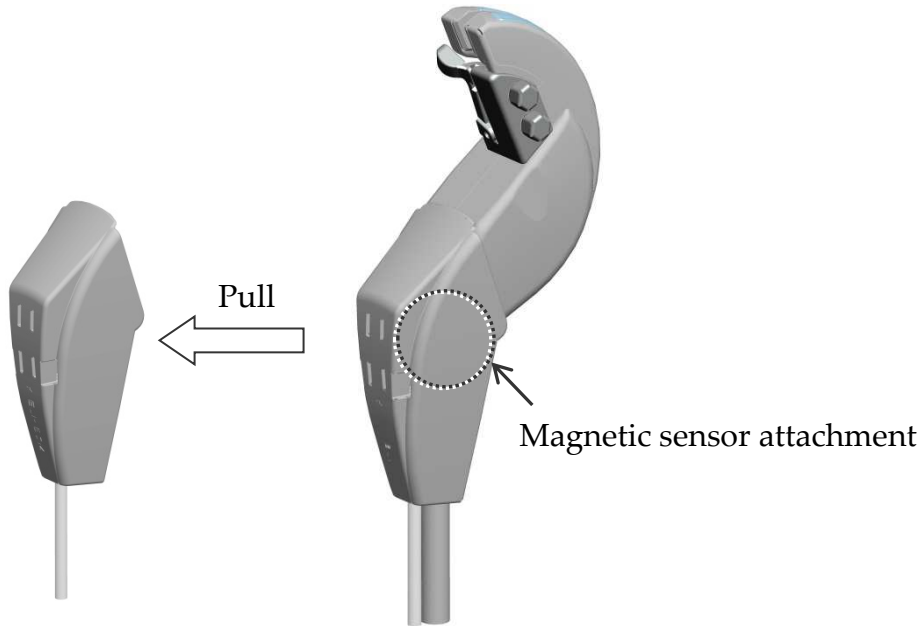

Fig.13 How to release the Magnetic sensor attachment
- 1) Release the Magnetic sensor attachment from the probe as shown in Fig.13.